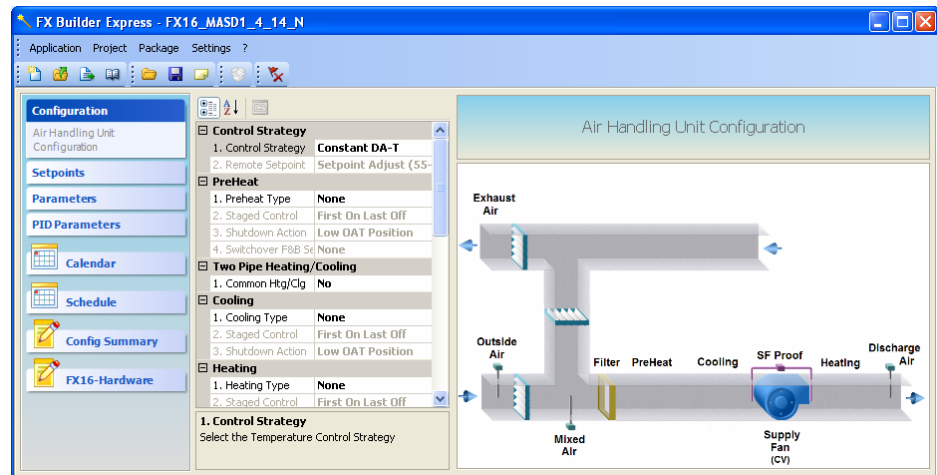

Figure 18: Specific Plug-in Loaded
2. Click OK. The specific plug-in for the application selection appears (Figure 18).